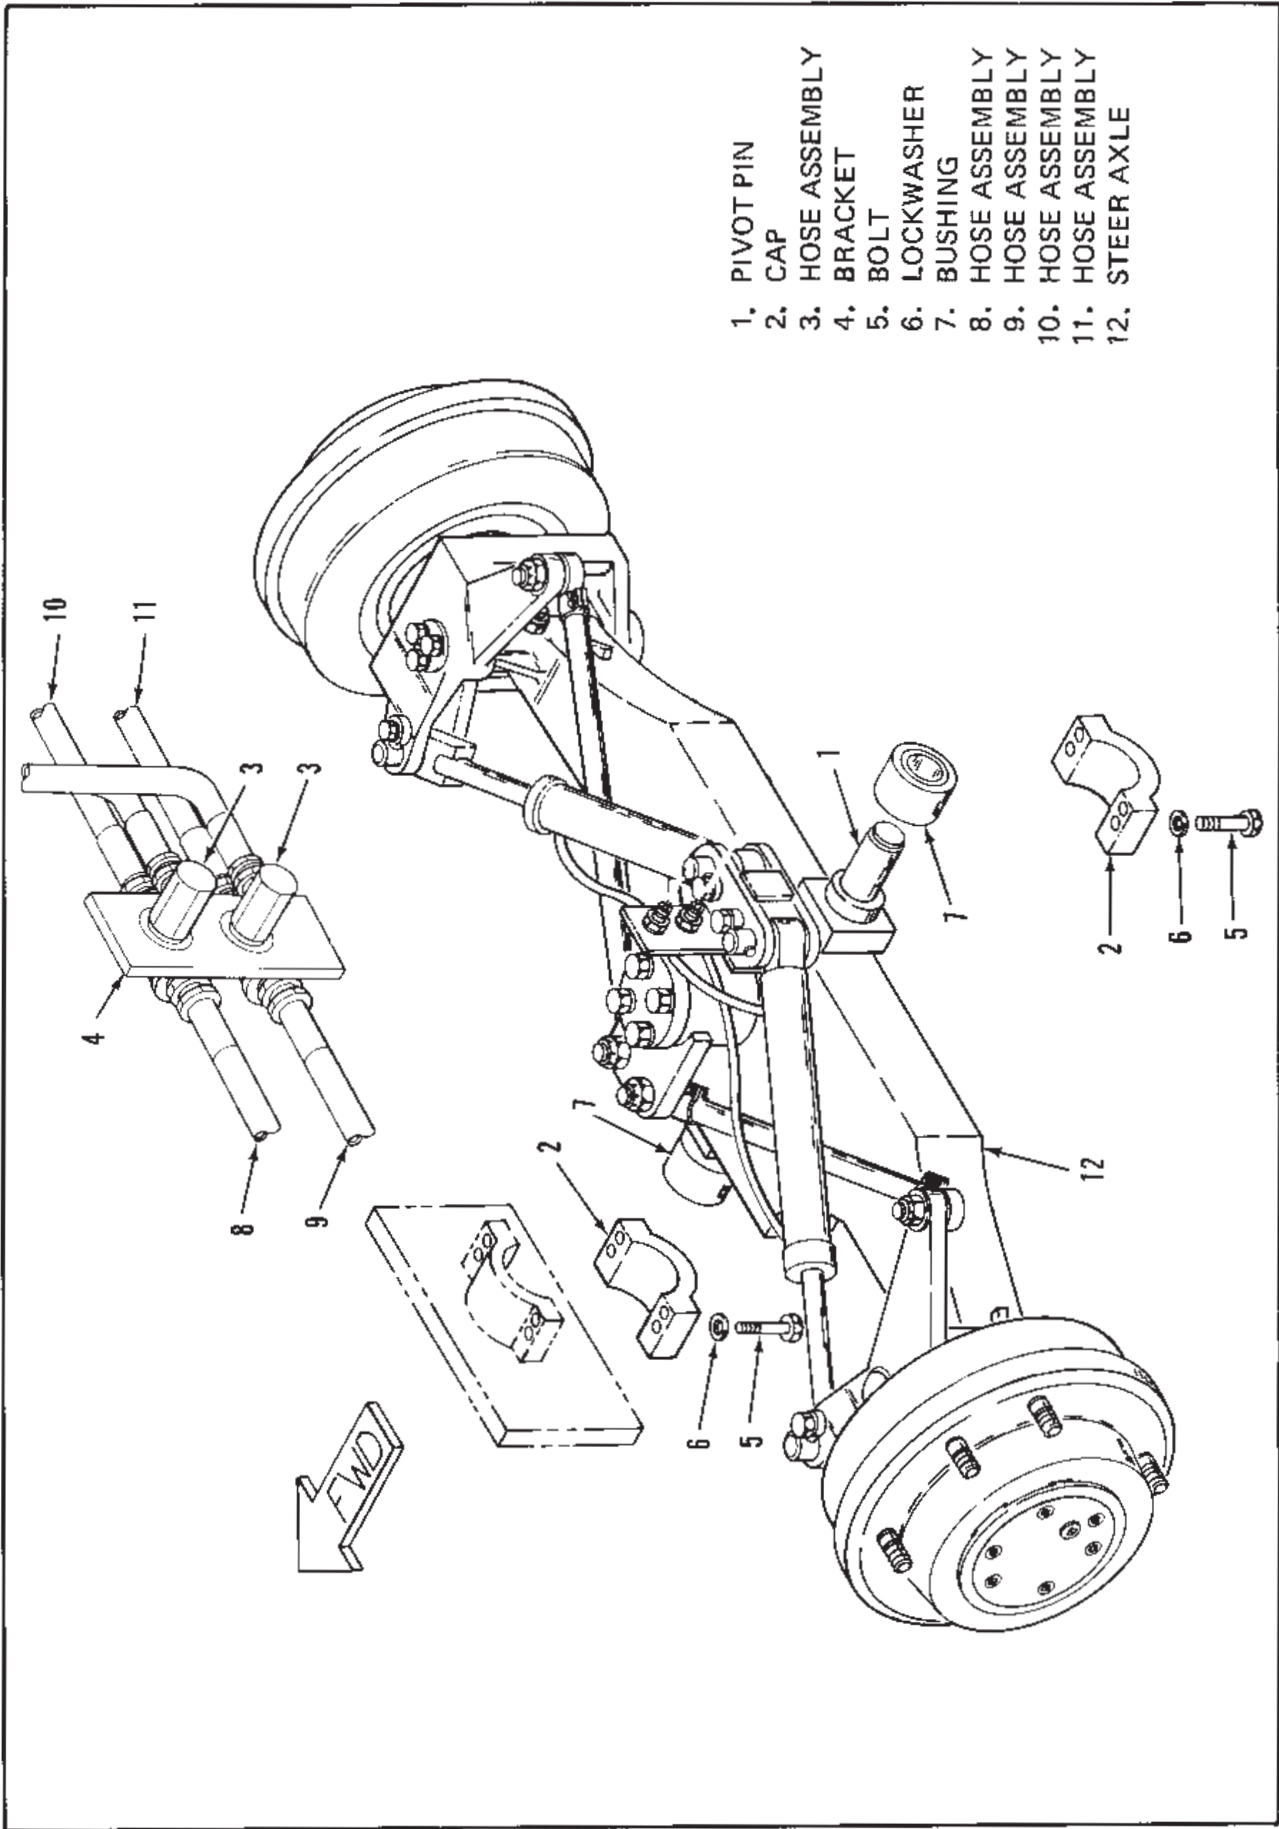

Figure 13-1. Steer Axle Removal
STEER AXLE REMOVAL (Figure 13-1).
a. Disconnect the hoses (8 and 9 or 10 and 11, Figure 13-1) depending on which steer cylinder is to be removed.